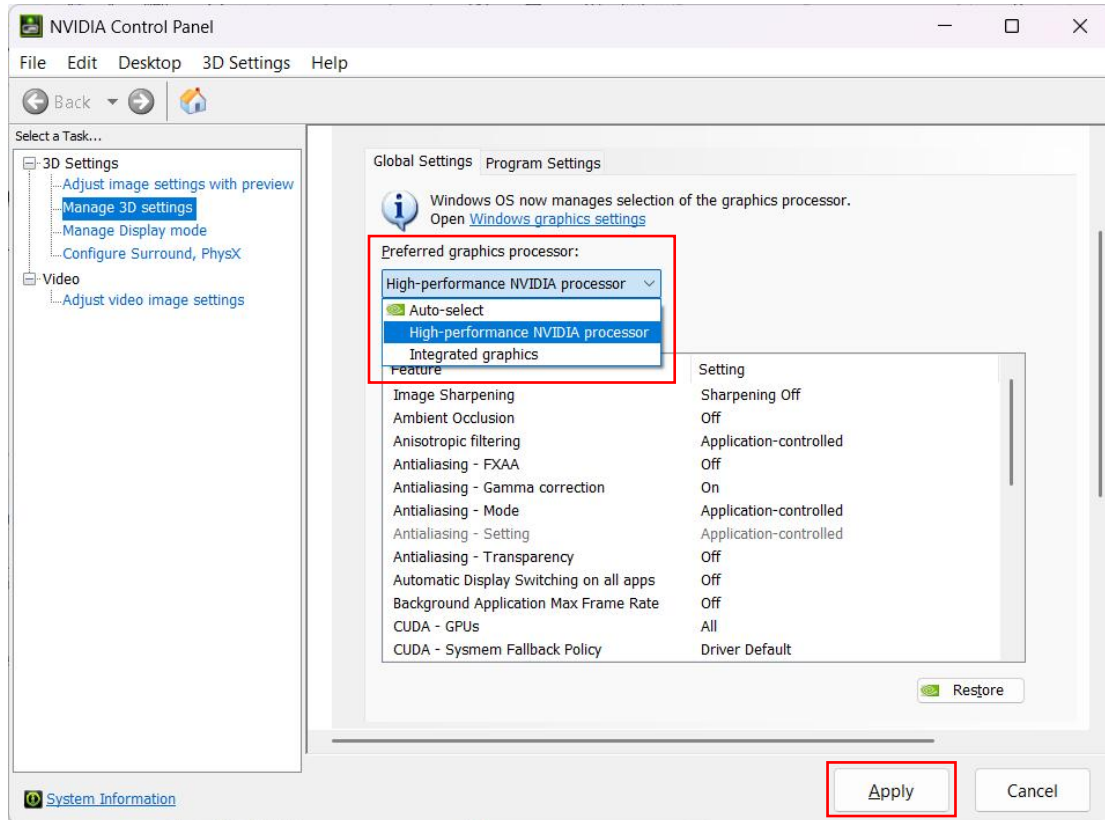

Figure 4-10 High-performance Mode Configuration
2. Click Manage 3D settings at the left panel, select High-performance NVIDIA processor from the "Preferred graphics processor" drop-down list, and Click "Apply", as shown in Figure 4-10.